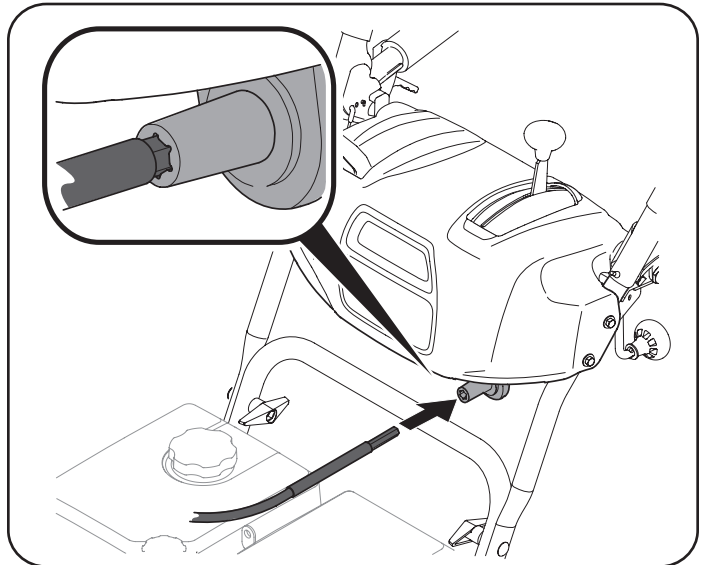

Figure 30
- Insert hex end of flex shaft into chute control rod coupling under dash panel. See Figure 30.